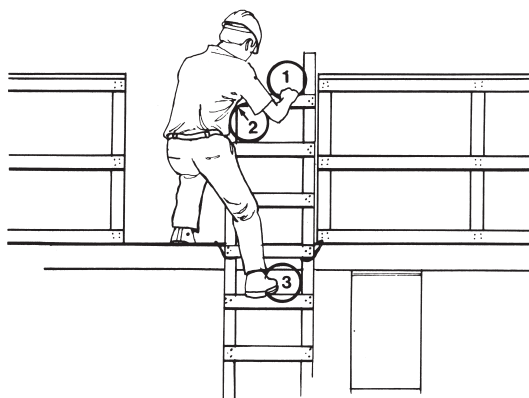

Figure 20-10: Maintain 3-point Contact
- Maintain 3-point contact when climbing up or down a ladder. That means two hands and one foot or two feet and one hand on the ladder at all times. This is especially important when you get on or off a ladder at heights (Figure 20-10).